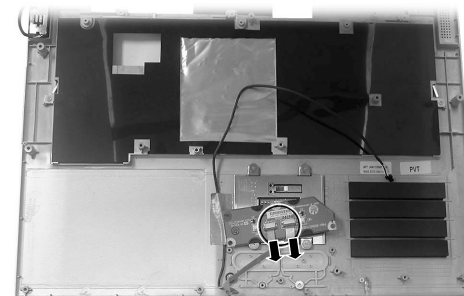

Figure 2-33 Disconnect two cables
5. Disconnect the TP & MB and the touch pad cables. (Figure 2-33)
4. Remove four screws fastening the touch pad module and disconnect the touch pad's cable to lift up the touch pad module. (Figure 2-33)